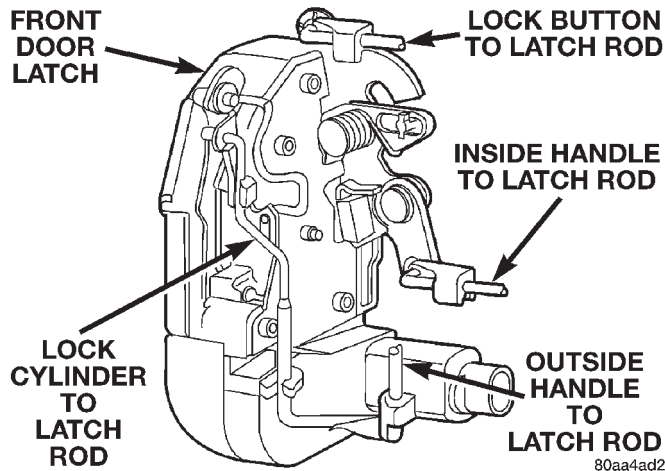

Fig. 31 Door Latch
(1) Remove door trim panel and waterdam.
(2) Remove screws attaching latch to door.
(3) Disconnect all rods from latch (Fig. 31).
(4) Disconnect power lock motor wire connector, if equipped.
(5) Remove latch from door face.